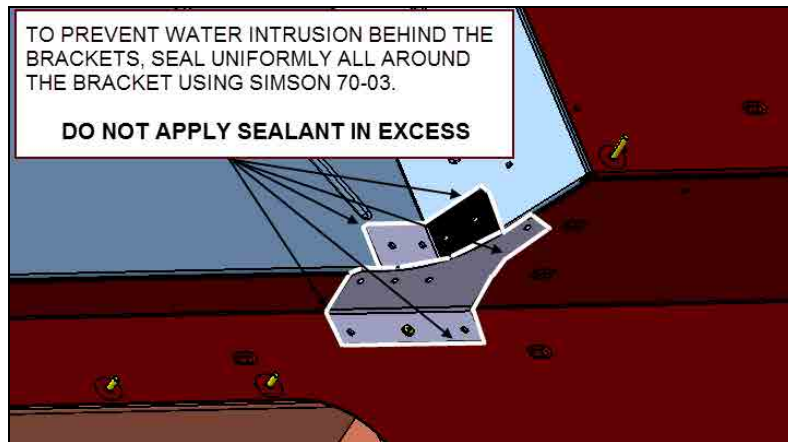

FIGURE 6
- 9) To prevent water intrusion, seal uniformly all around the reinforcement brackets using Simson 70-03. Do not apply sealant in excess (figure 6).